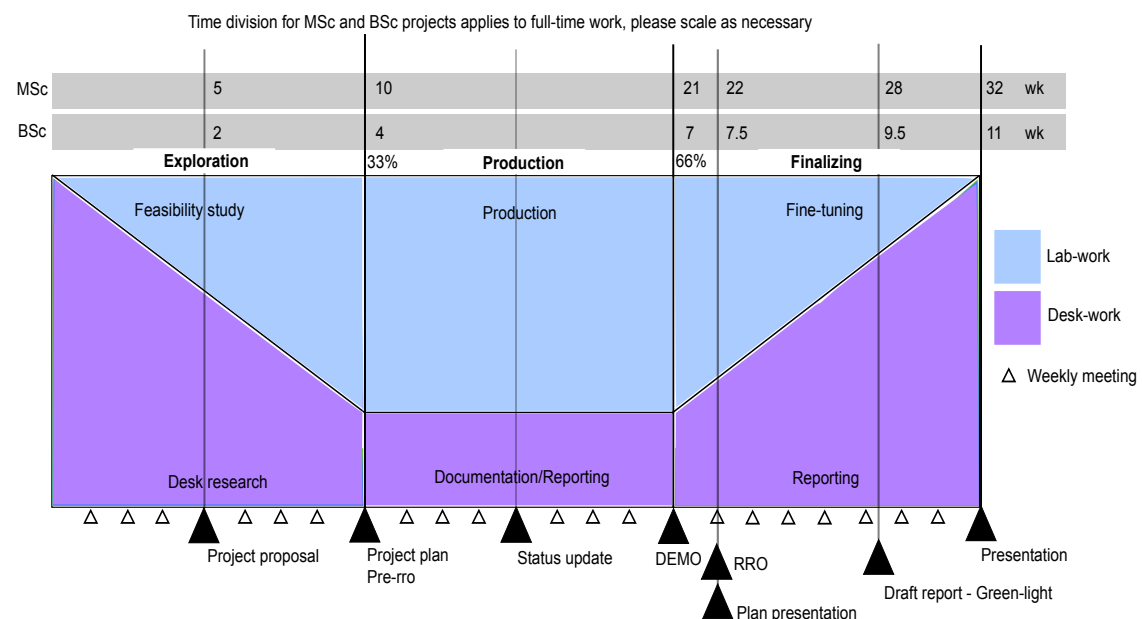

Figure 3.1: The three phases and milestones of a project (recall of Figure 2.2)
The first planning is only about the three phases, and the tasks to be done during the first phase (Exploration Phase). The whole project is divided into three equally-sized phases: Exploration, Production, and Finalising Phases, see Figure 3.1, being a recall of Figure 2.2).
- Lengths of phases indicated in Figure 3.1 are weeks of full time work (*full-time weeks*), without any disturbance, so each week is 40 h of work. The full-time duration of an MTP is 32 wk (weeks). This is including 4 wk slack time, as 40 EC of 28 h equals 28 wk of 40 h. The phases are 10, 11, and 11 weeks long.